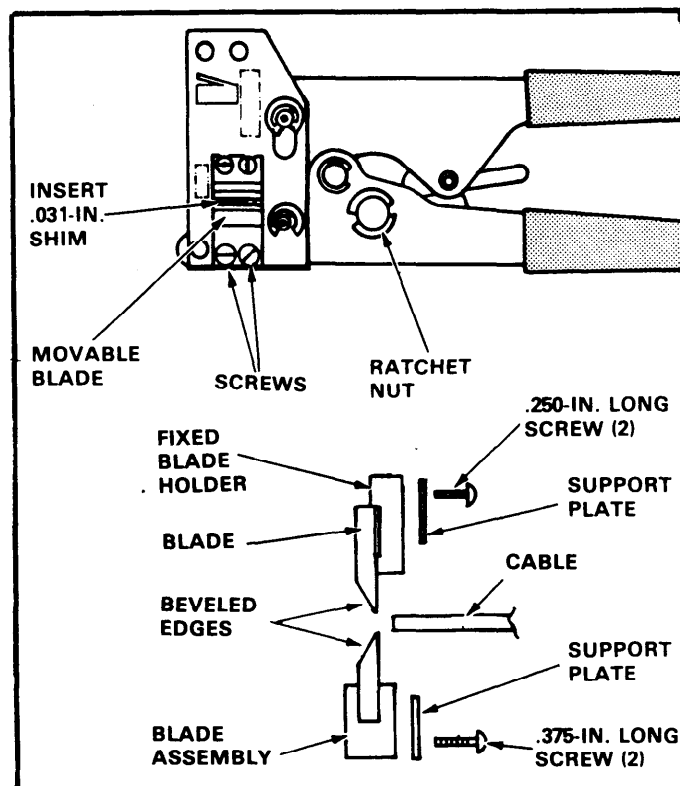

Fig. 8
1. Loosen ratchet nut on back of tool (see Figure 8).
If cable jacket insulation is cut so shallow that it doesn't strip off, or so deep that the blades cut into the conductor insulation, the cable stripper blades need to be adjusted. Refer to Figure 8 and proceed as follows:
2. Position new blades on tool with beveled edges inward, as shown in Figure 8.